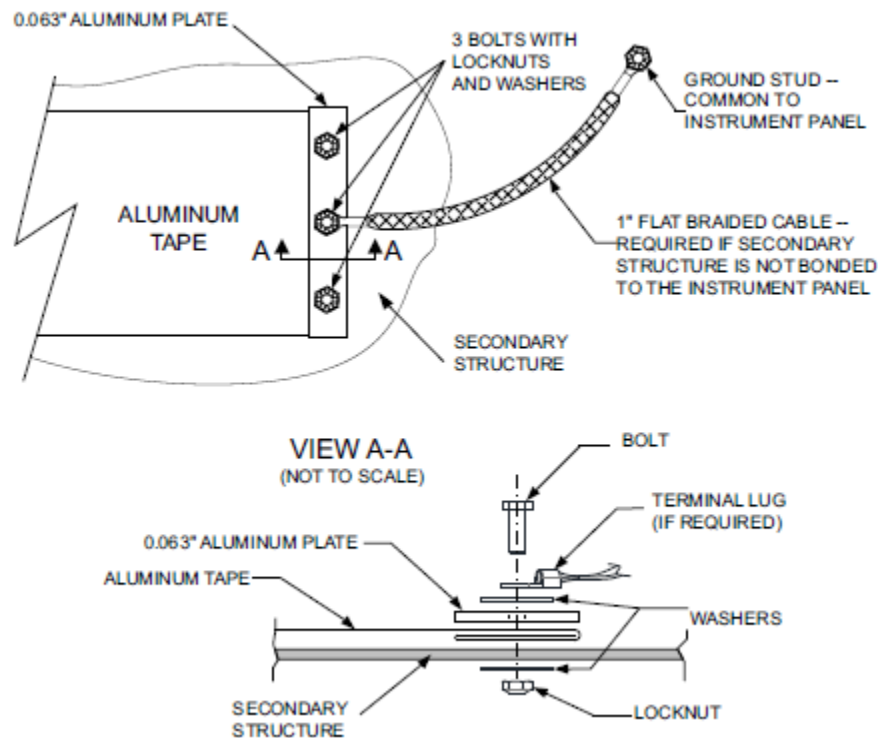

Figure 4-61 Aluminum Tape Ground Termination
8. Fold the end of the tape over twice for added thickness at the prepared grounding location. Refer to Figure 4-61. Apply 3" wide tape over the seam.
11. If a bonding strap will be used to reach the grounding location, secure the end of the tape to the secondary composite surface as shown in Figure 4-61. Note that the procedure for installing mounting bolts applies only to secondary aircraft structures, not to primary structure or structural load-carrying members. The tape shall meet 5:1 length to width ratio if a bonding strap is used. The bonding strap shall be one inch wide and no longer than five inches. Refer to Figure 4-61.
14. Secure the end of the tape in place using a 0.063" piece of aluminum using three bolts and nuts. Refer to Figure 4-61.